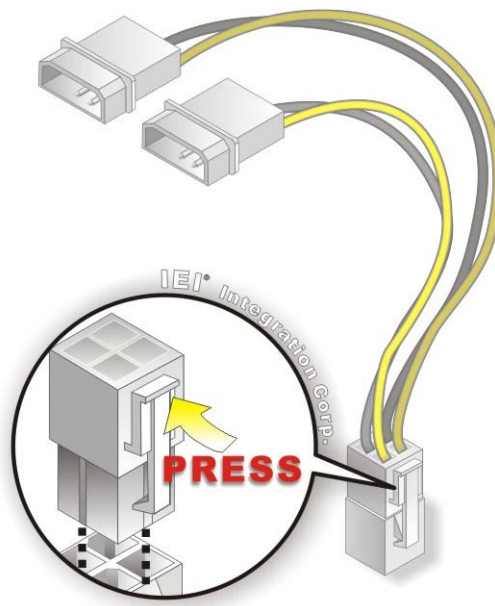

Figure 4-19: Power Cable to Motherboard Connection
Step 2: **Connect the Power Cable to the Motherboard.** Connect the 4-pin (2x2) Molex type power cable connector to the power connector on the motherboard. See Figure 4-19.